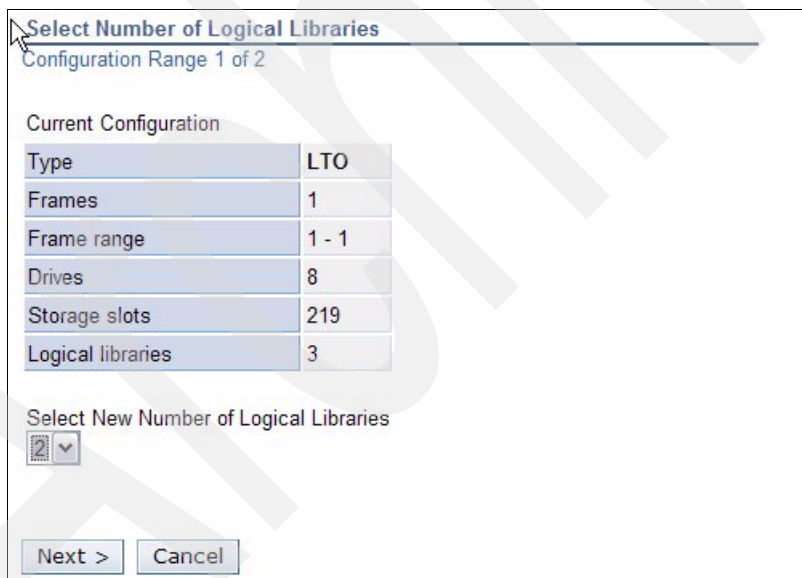

Figure 2-33 IBM TS3500 Tape Library Specialist Logical Libraries
7. **Click Next**. The number of logical partitions can now be selected (Figure 2-33).